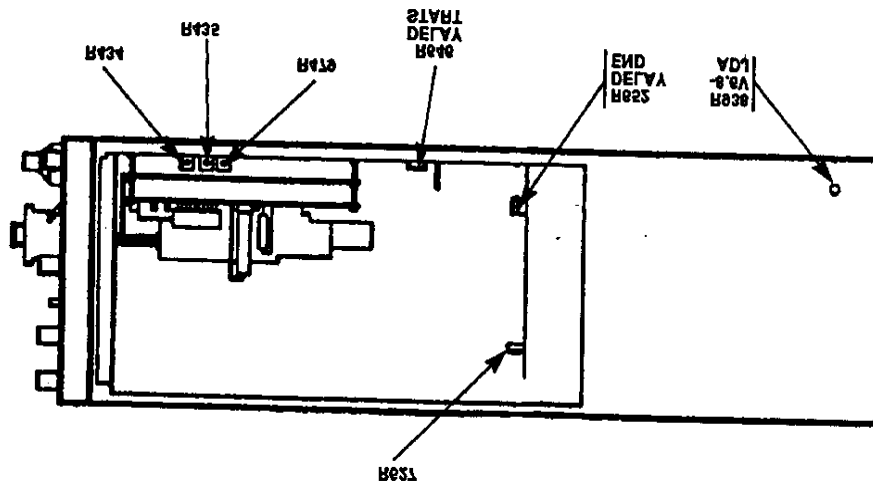

Figure 2. Adjustment locations - right side view.
(30) Set oscilloscope calibrator **MARKER** output for **.1 mS/D**.
(31) Adjust **A/B SWP SEP** control to separate A and B sweeps.
(32) Adjust R646 DELAY START (fig. 2) so that the 2nd A sweep time marker is intensified and the B sweep time marker's rising edge starts at the beginning of B sweep (R).
(33) Adjust **B DELAY TIME POSITION** dial to **9.00**.
(34) Adjust R652 DELAY END (fig. 2) so that the 10th A sweep time marker is intensified and the B sweep time marker's rising edge starts at the beginning of B sweep.
(35) Adjust **B DELAY TIME POSITION** dial to **1.00**.
(36) Repeat (32) through (35) above until no further improvement is noted.
(37) Set **HORIZONTAL MODE** switch to **B**.